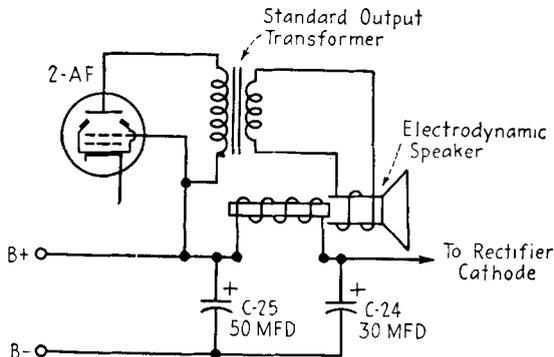

FIG. 18-33. Replacing a hum-bucking-type output transformer, method 5.
5. Use the circuit of Fig. 18-33. This replaces the P-M speaker with an electrodynamic unit.